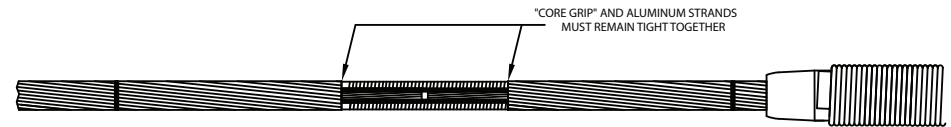

Fig. 4
4. **IMPORTANT:** File burrs from end of steel strands. Slide each conductor's steel core into ends of the "Core Grip" Assembly. Rotate the "Core Grip" Assembly in a "back-and-forth" motion to ease insertion of the steel core. Ensure "Core Grip" Assembly is tight against the aluminum strands as shown in Fig. 4.